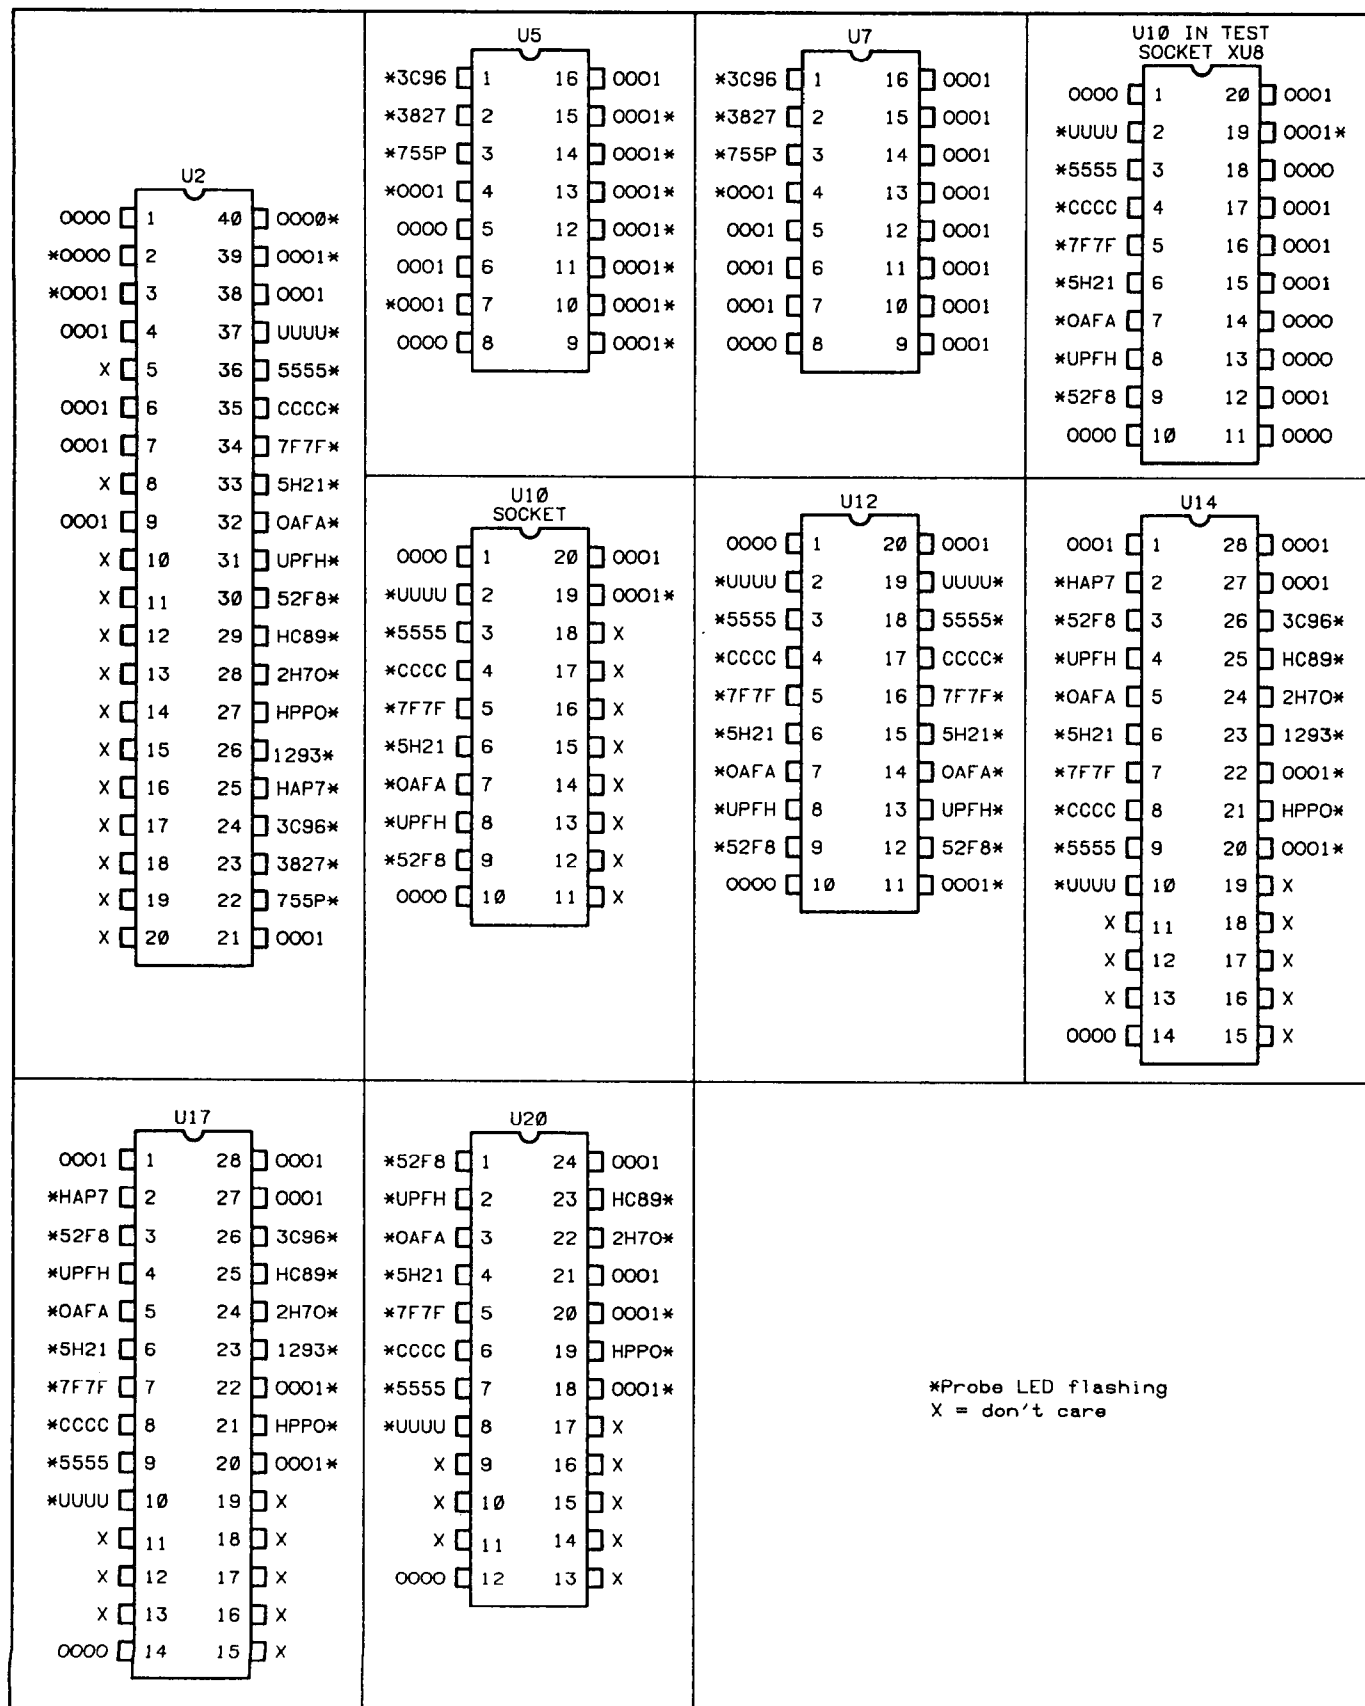

Figure 8-29B. 5352B A4 Signatures for Mode 1, Setup 1
8-651. Note that the expected signatures for the 5350B and 5351B are shown in *Figures 8-29A, 8-30A, 8-31A, 8-32A, and 8-33A*, while the expected signatures for the 5352B are shown in *Figures 8-29B, 8-30B, 8-31B, 8-32B, and 8-33B*.
7. Power on the counter and verify the signatures shown in Figure 8-29A for the 5350B/5351B, or Figure 8-29B for the 5352B.